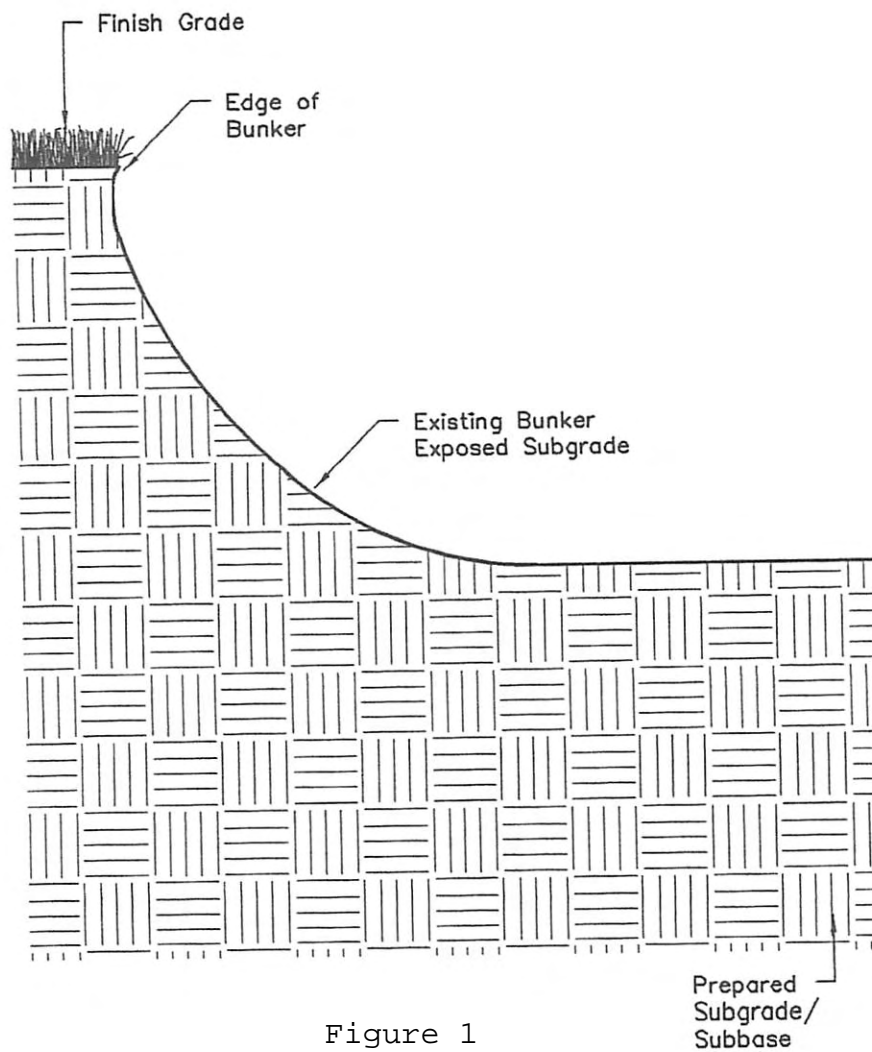

Figure 1
3. Amend the subgrade as needed for proper drainage and compaction. Make sure there are no low spots where water could pool. Finished subgrade elevations and compaction to be verified as acceptable before proceeding (see Figure 1 and Photos 1 and 2).